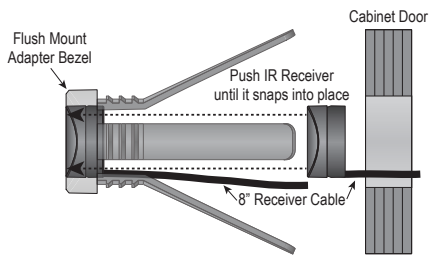

Figure 10 - Flush Mount Adapter -
3. From the back side of the cabinet door, feed the IR Receiver through the hole in the cabinet door. Carefully pull the 8" Receiver Cable straight back from the IR Receiver and with the receiver lens oriented to match the orientation of the adapter (thick sections 12 and 6 o'clock) push the IR Receiver into the back of the adapter until it snaps into place. **Figure 10**